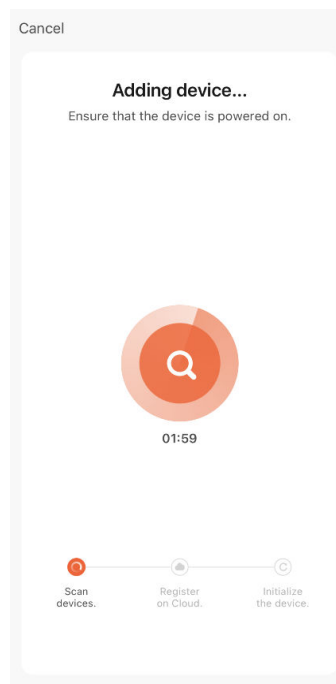

FIG.6
4. The APP will scan (FIG.6) and add the fireplace to APP (FIG.7) automatically. Please make sure the Wi-Fi account and password you set are correct and Wi-Fi signal is good.